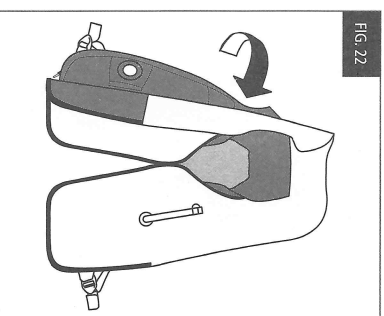

FIG. 22
2. Starting on the side with the inflator, fold the outside edge in towards the middle so that the curves at the neck meet (Fig. 22).